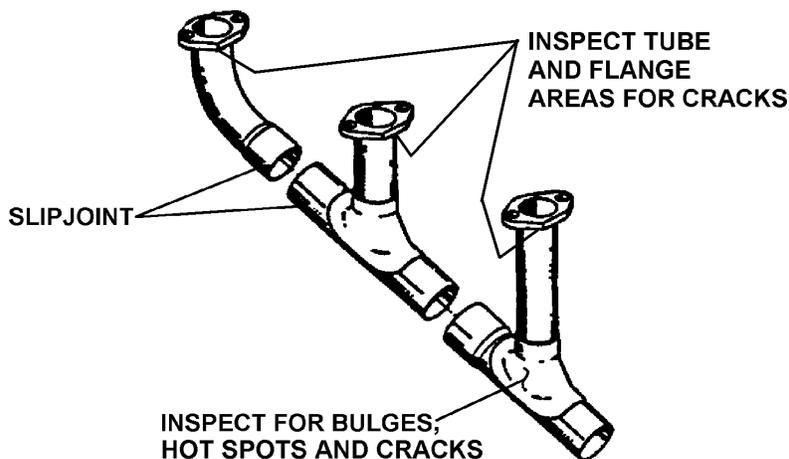

FIGURE 7-1 SLIPJOINT ASSEMBLY
1. Visual Inspection - Stacks, Risers, Elbows - Inspect these components for burned areas, corrosion, erosion, cracks and looseness using a 10X magnifying glass. Exhaust system components exhibiting erosion, corrosion or that are less than the required thickness must be replaced with new. During this inspection examine the condition of welded areas and seams for cracks. Any exhaust system component that is cracked must be discarded. Visually inspect slipjoints for bulging and cracks. See Figure 7-1. "Slipjoints."